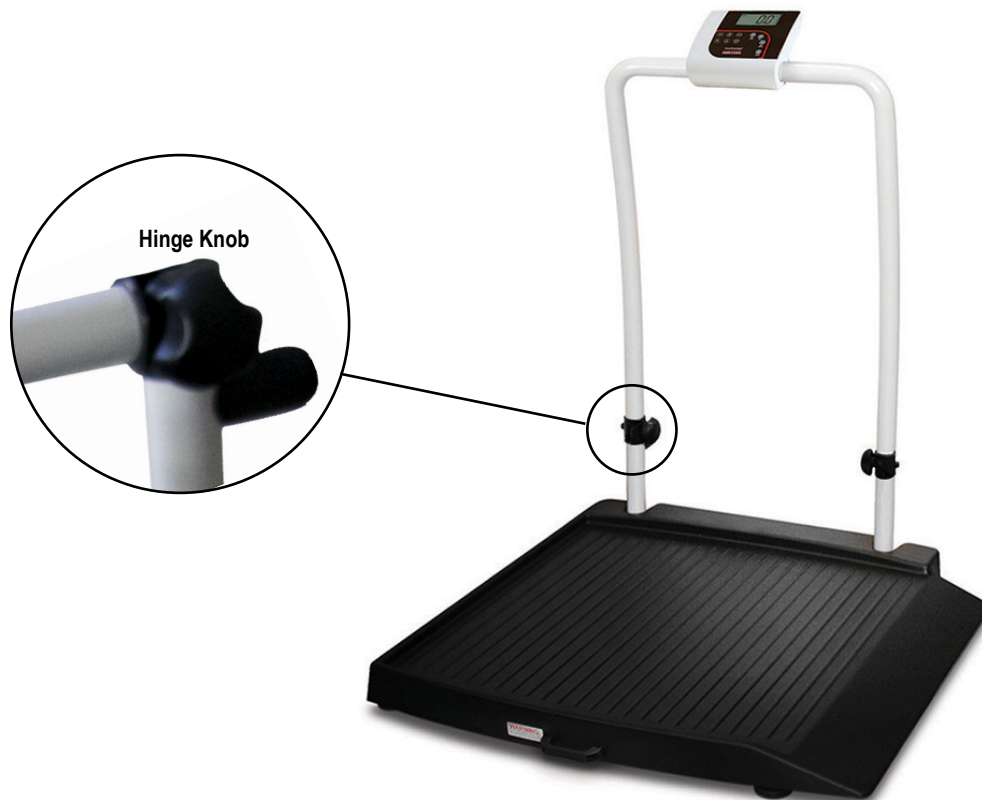

*Figure 2-2. Clearance Between Scale Base and Floor*
5. Lower the scale base down to the floor carefully. There should be minimal clearance between the scale base and the floor. Figure 2-2 shows a finger width slid between the scale base and the floor.